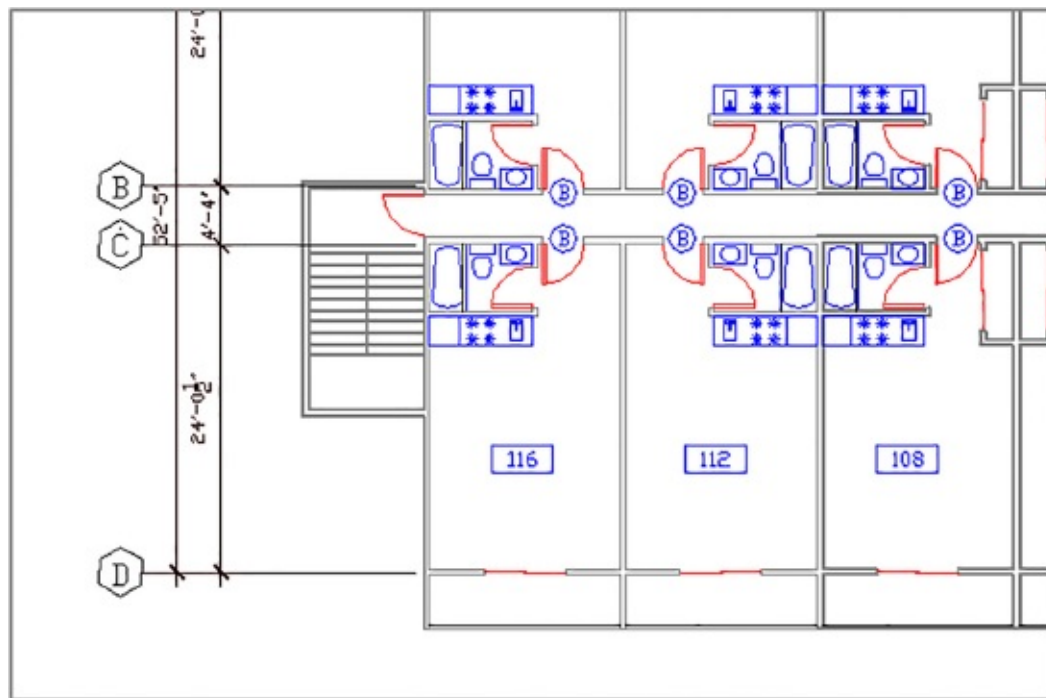

FIGURE 15.22 An enlarged view of the plan with lineweights displayed
3. Make sure that you're in paper space, and then zoom into the drawing. The lines representing the walls are now thicker, as shown in Figure 15.22.